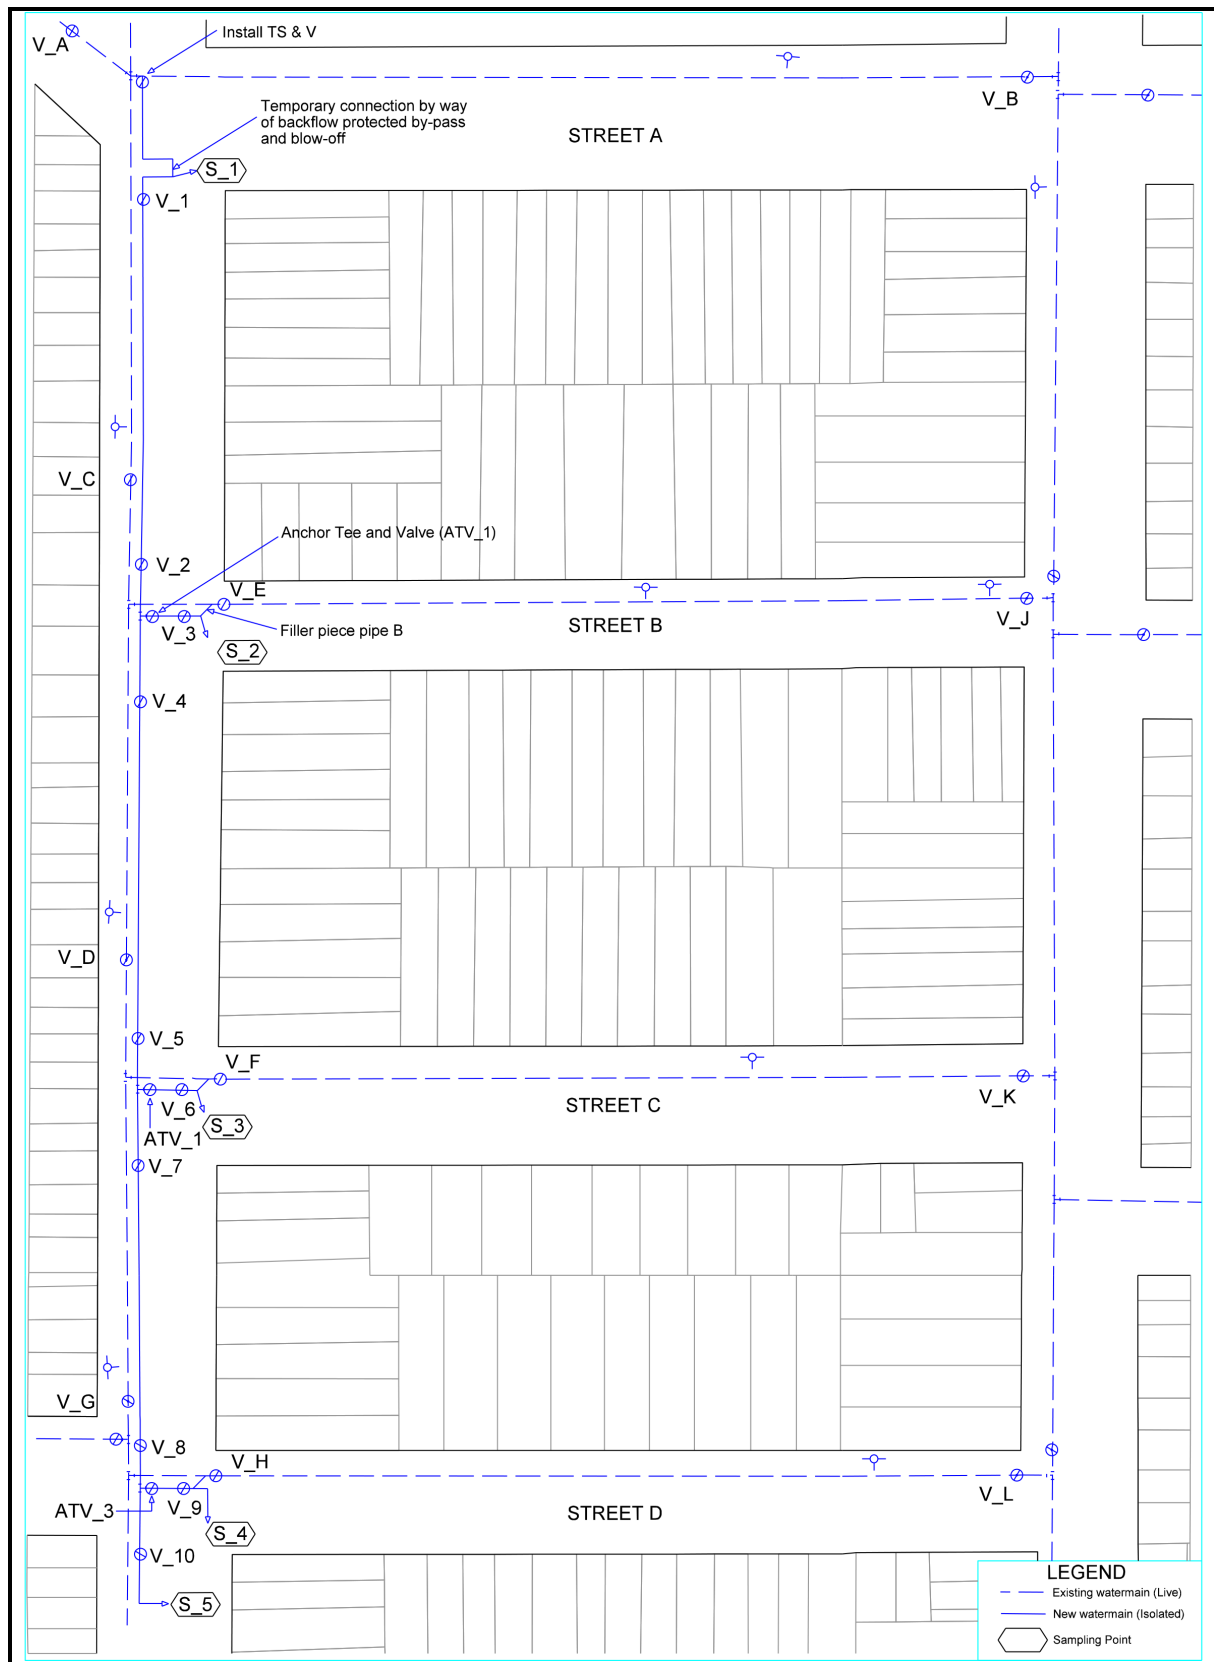
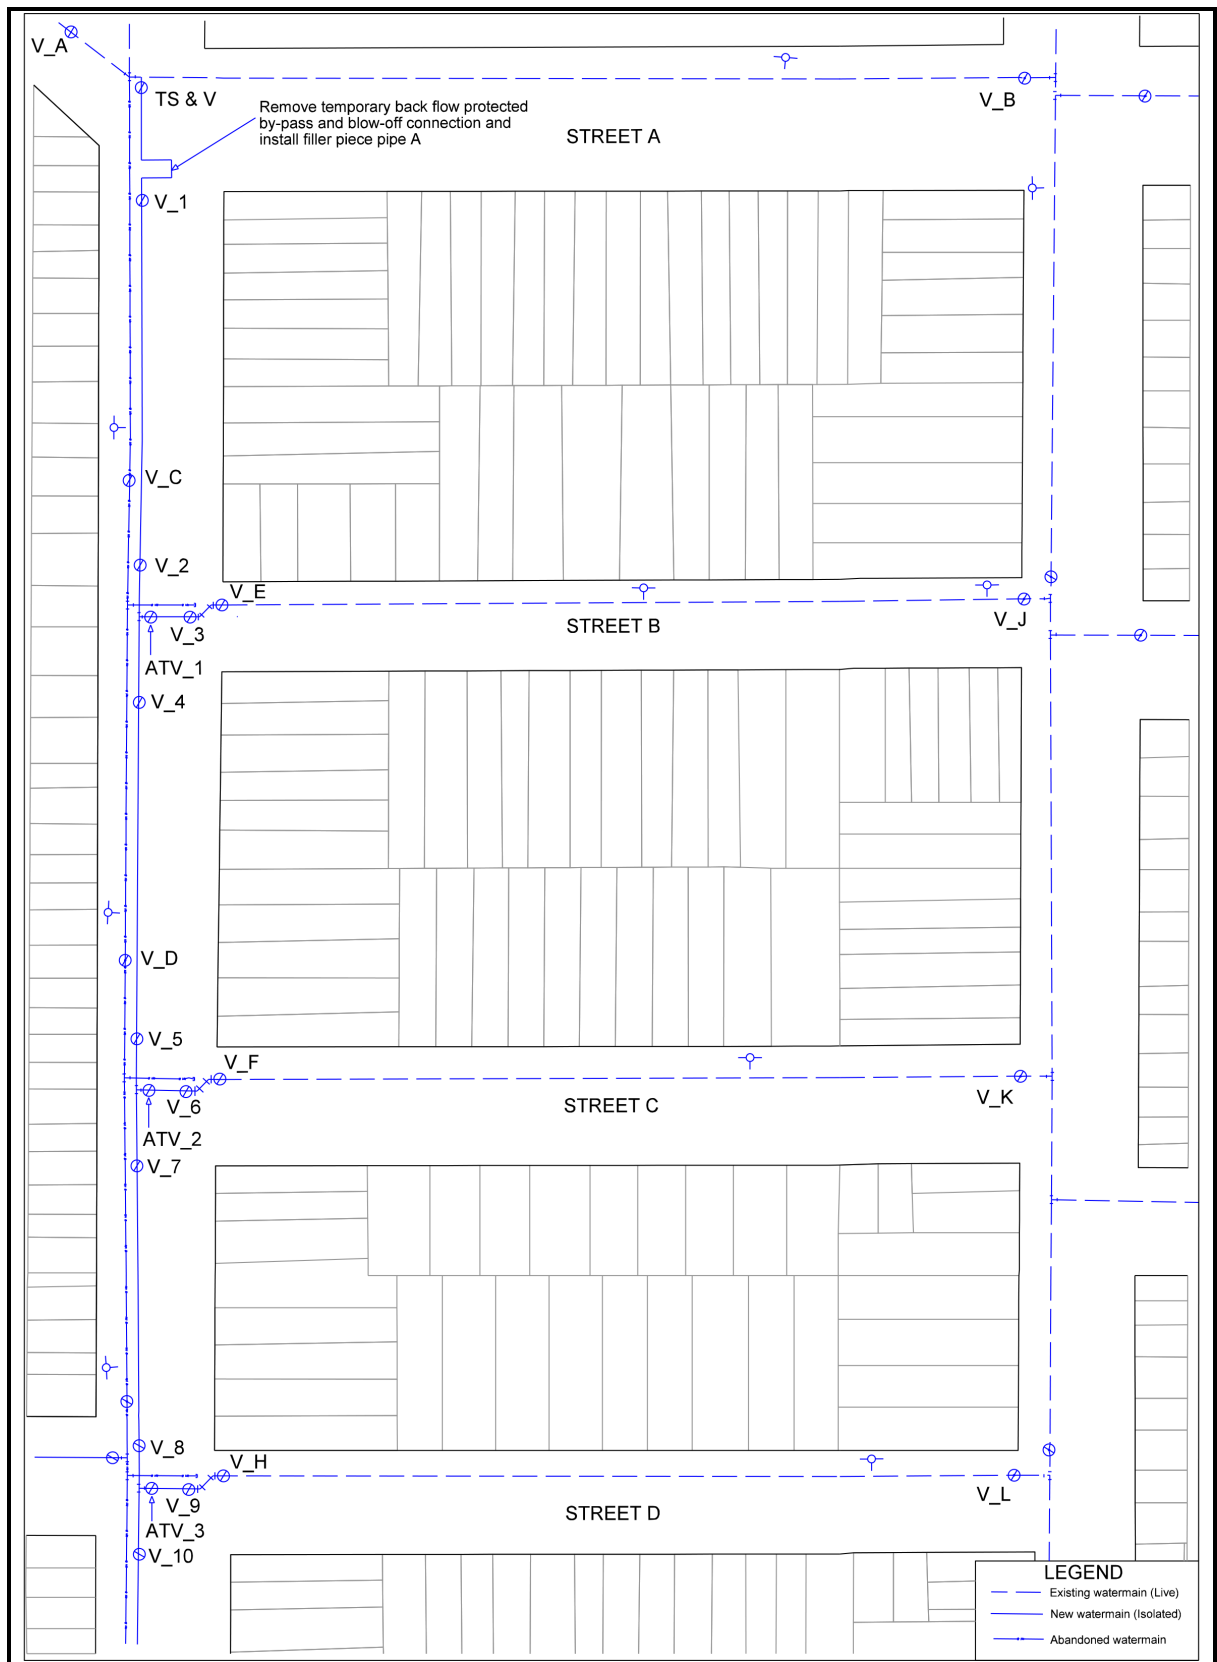

Figure 1: Scenario one – connecting to branch connections
Figure 2: Scenario two – connecting to source feeder watermain
The work involves the procedure for making watermain replacement and connection to an existing watermain system. All work shall be done to the satisfaction of the Contract Administrator. Instructions for making a connection are based on the scenarios in Figure 1 and Figure 2.
- 4** Take two consecutive samples at sampling stations S1, S2, S3, S4 and S5 as shown on Figure 1 and according to TS 7.30 *Procedure for Disinfecting Watermains*.
- 7** The new watermain pipe permitted to be dewatered is from the isolation valve on the new watermain to the connection point on the existing watermain which shall be less than 6.1 m in distance. An exception to the above is allowed when making a connection to the source feeder watermain according to section 7.70.04 and illustrated in Figure 2.
The following is a typical procedure for the connection of a replacement watermain to an existing watermain on street B as shown in Figure 1.
- 4** Contractor to cut into watermain pipe before valve V_E, that is to say the left side of valve V_E on Figure 1 and install mechanical cap on existing water main. Contractor to pump out water and ensure all discharge water in excavation is below open ends of existing pipes.
Procedure for connecting new watermain system to existing watermain system. For this example the connection will be for a permanent connection on street A as shown on Figure 2.